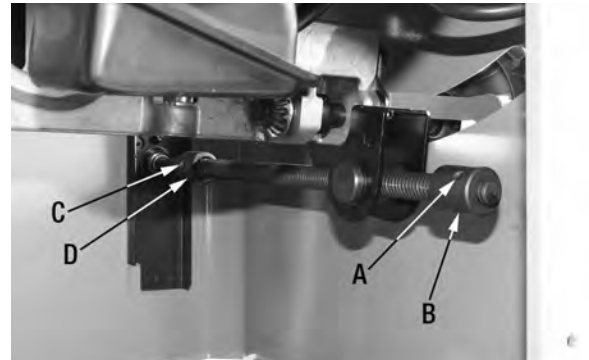

FIGURE 30
- 5) Loosen set screw (A) Fig.30 in the 90° stop collar (B), and position stop collar to allow further movement of shaft bracket.
- 7) Turn stop collar until it comes in contact with the shaft bracket, and retighten set screw (A).
- 10) Loosen set screw (C) Fig.30 in the 45° stop collar (D), and position stop collar to allow further movement of shaft bracket.
- 12) Turn stop collar until it comes in contact with the shaft bracket, and retighten set screw (C).